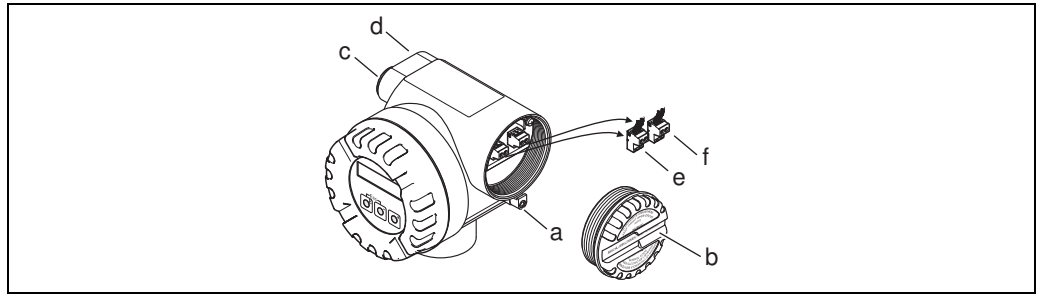

Fig. 14: Connecting the transmitter, Ex d version
5. Pull the terminal connector (g) out of the transmitter housing and connect the cable for the power supply/current output. (→ Fig. 14, A)
Optional: pull terminal connector (h) out of the transmitter housing and connect the cable for the pulse output/frequency output. (→ Fig. 14, B)
secure the ground cable to the ground terminal (→ Fig. 14, C).
4. Pull the terminal connector (e) out of the transmitter housing and connect the cable for the power supply/current output. (→ Fig. 14, A)
Optional: pull terminal connector (f) out of the transmitter housing and connect the cable for the pulse output/frequency output. (→ Fig. 14, B)